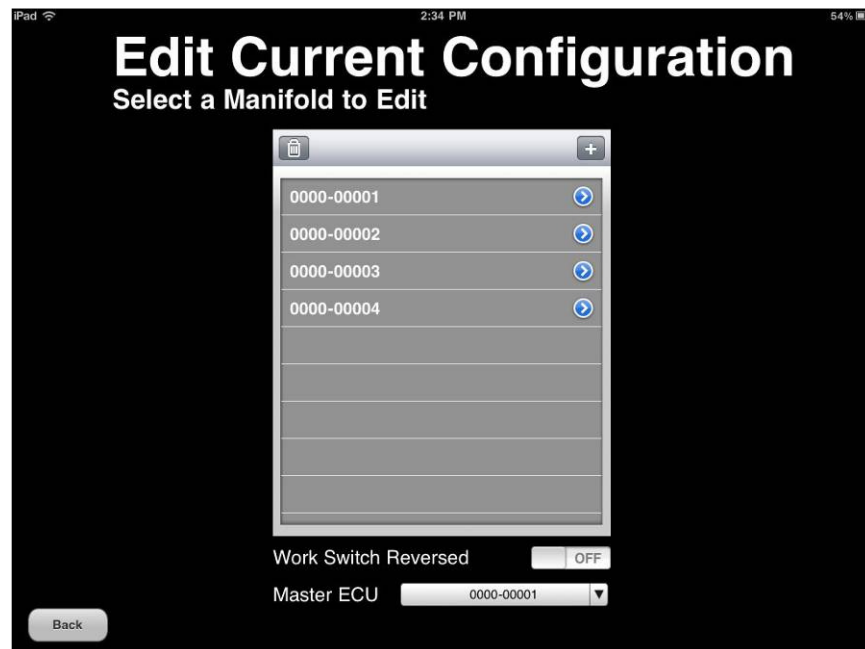

Figure 20: Edit Current Configuration screen
3. Press the **+** button, located on the upper right corner of the gray box in the middle of the Edit Current Configuration screen (shown in Figure 20)